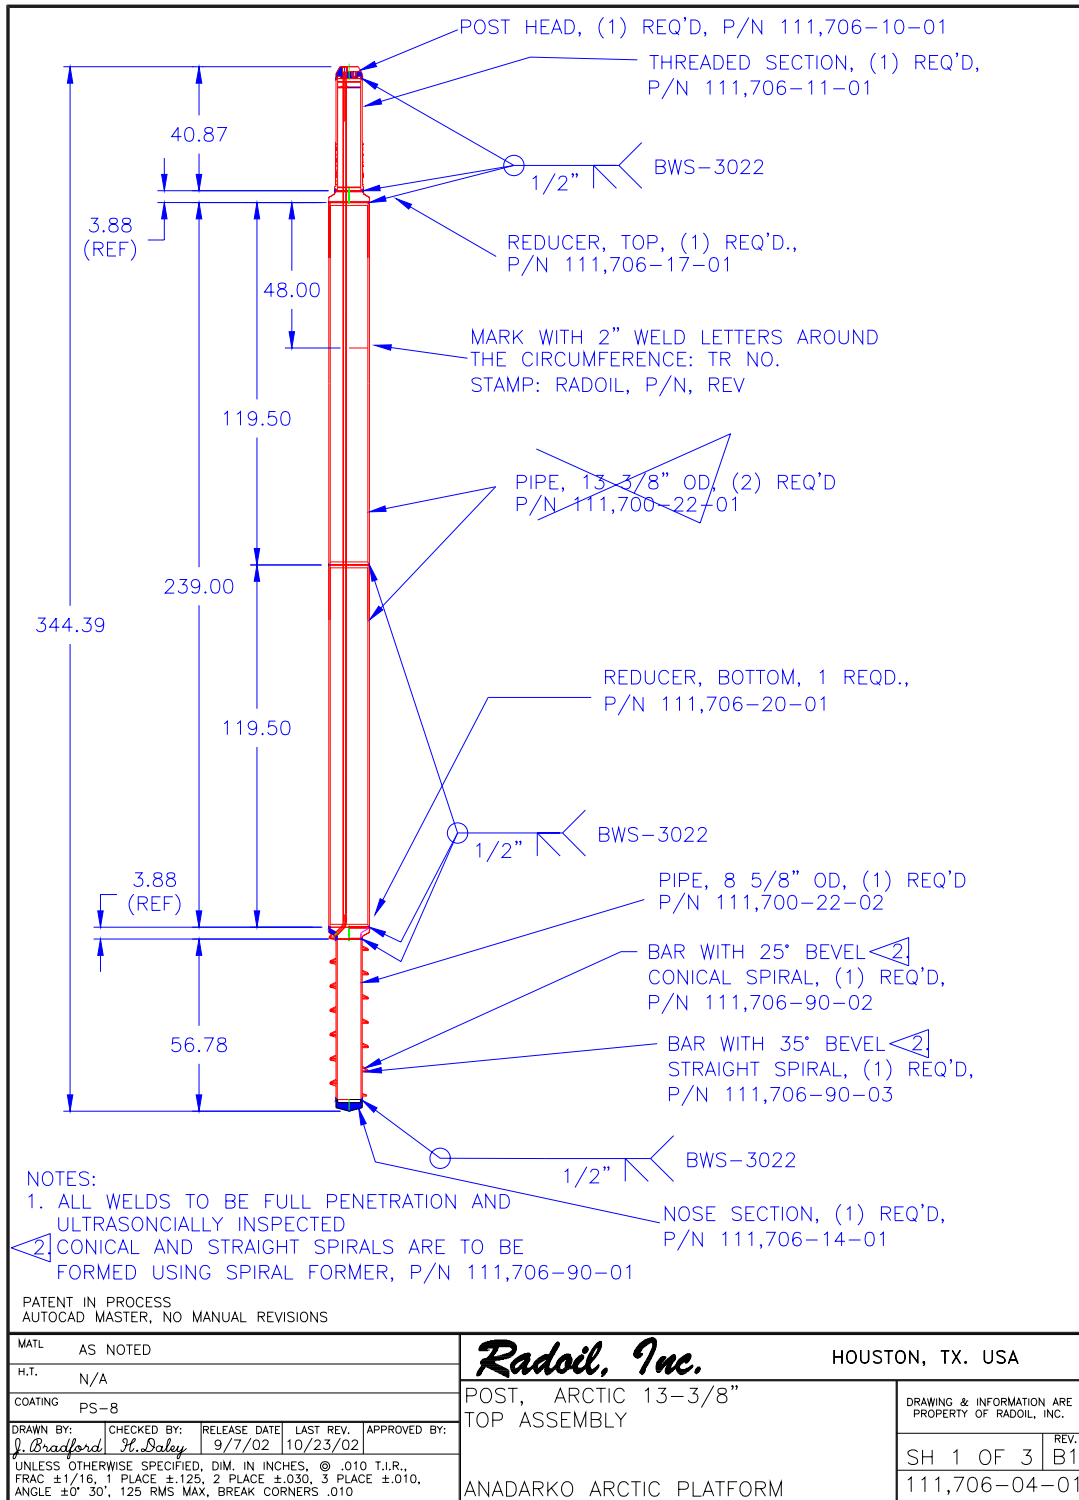

Figure 6 Diagram of Anadarko's Tundra Platform Leg, TPL-7
Thermal piles or thermosyphons are VSM's that are self-contained passive two-phase liquid/vapor heat transfer units (Figure 6). They are widely used to maintain thermal regimes in permafrost. The heat transfer technology is also used for remediation of foundations that have failed because of permafrost degradation. Thermosyphons can significantly increase soil strength by reducing the soil temperatures.
Anadarko along with Radoil Inc. have designed a pile specifically for its Tundra Platform, Figure 6. For the purposes of this report we will designate it TPL-7. Outside diameter (OD) of the pile in the 6.7 m (22 ft)-upper smooth portion is 0.35 m (13.625 in). Below that point the casing OD becomes 0.22 m (8.625 in); with the helix added the diameter of the lower portion of the pile becomes 0.334 m (13.135 in). Planned embedment depth is approximately 6.1 m (20 ft).